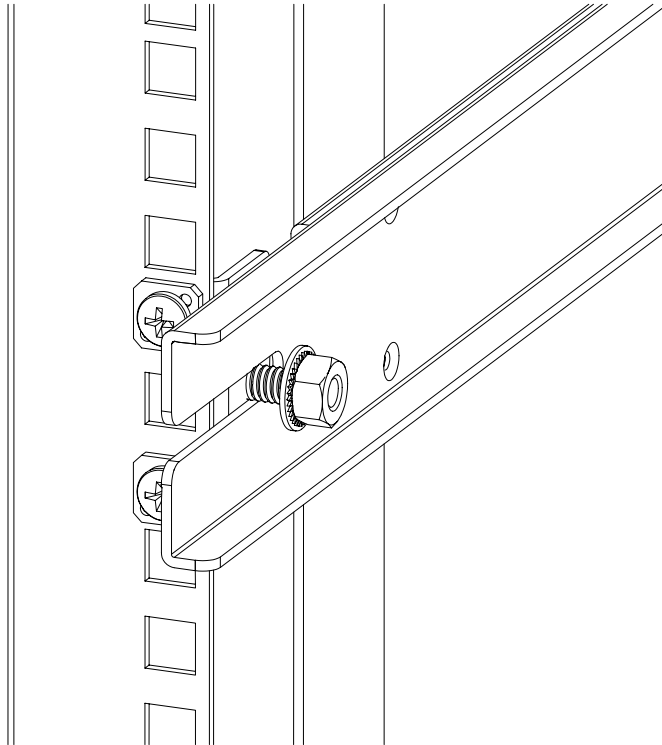

Figure 7: Installing the outer rails (HP 10000 series or comparable EIA cabinet)
- a. Attach the left outer rail and the right outer rails to the rear mounting brackets using (2) 1/4-20 hex nuts with captive star lock washers attached loosely as shown in Figure 7. Don't tighten them. The nuts will be tightened later in step 8 on page 46.
8. Tighten the nuts installed in step a on page 39 of step 4 on page 39. See Figure 7 on page 39.